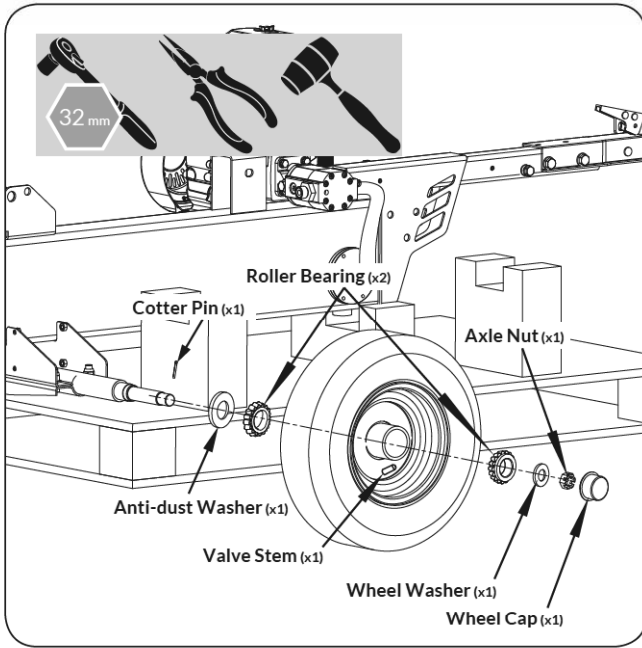

Figure 4d
5. Slide the wheel with the valve stem facing out to the wheel axle and the other roller bearing, then put the wheel washer against the bearing. Use a 32mm socket to tighten the axle nut completely. (See **Figure 4d**)